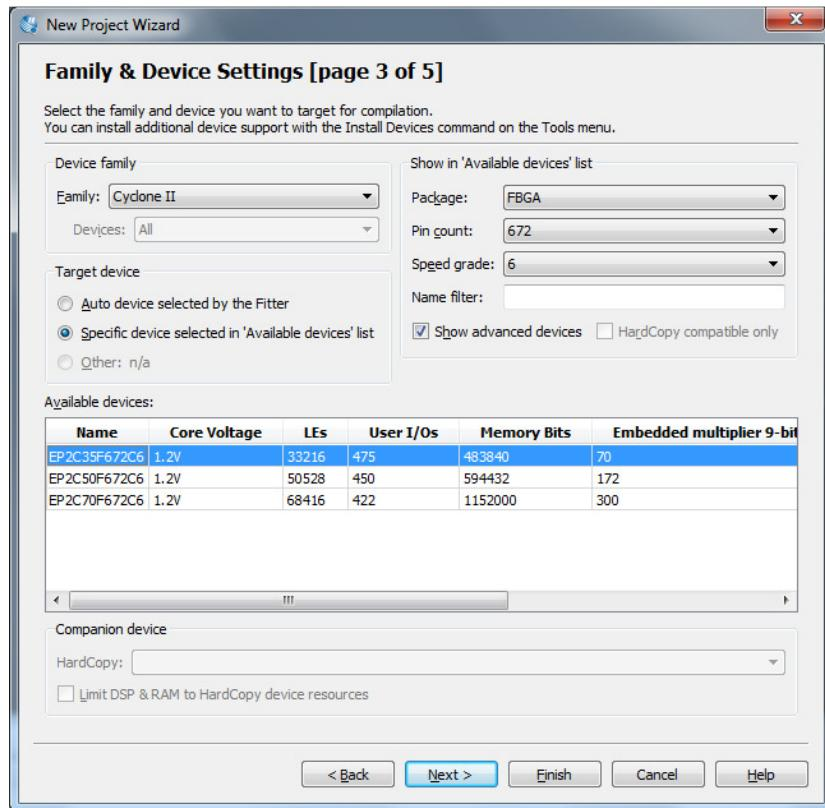

Fig. 4: ‘Family & Device Settings’
2. Click ‘Next’ and ‘Next’ again to reach the ‘Family and Device Settings’ page and select the following settings. (See Fig. 4) This is the device specification for the Altera DE2 Development Kit that we will use in this lab.